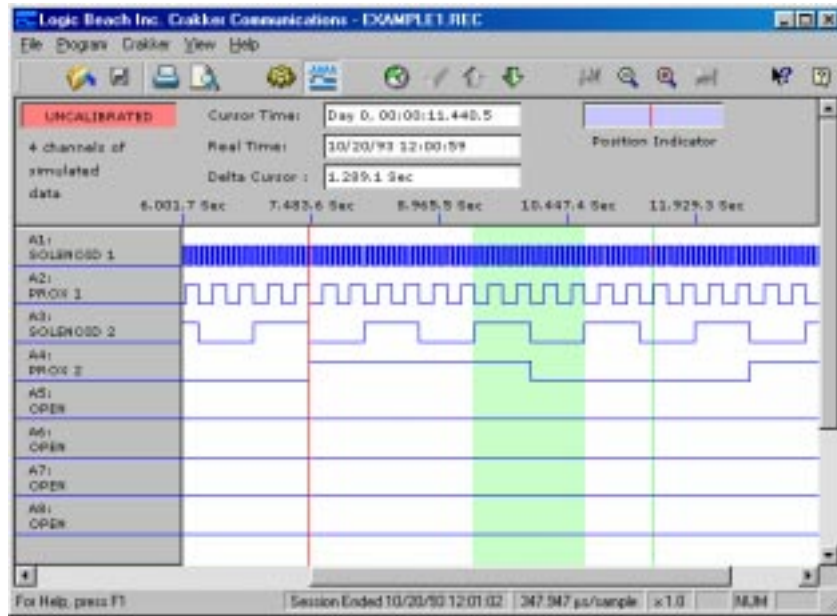

Figure 1.1 Resulting I/O Transition Timing Display from within CCW software
After a Trigger has occurred, the trapped data (recorded into memory within the Crakker) is then downloaded to a Personal Computer (PC) and displayed using the supplied Crakker Communications software (Figure 1.1). The data display graphically displays the relative and absolute timing of all 16 channels of data to time resolutions as fine as 165uS.